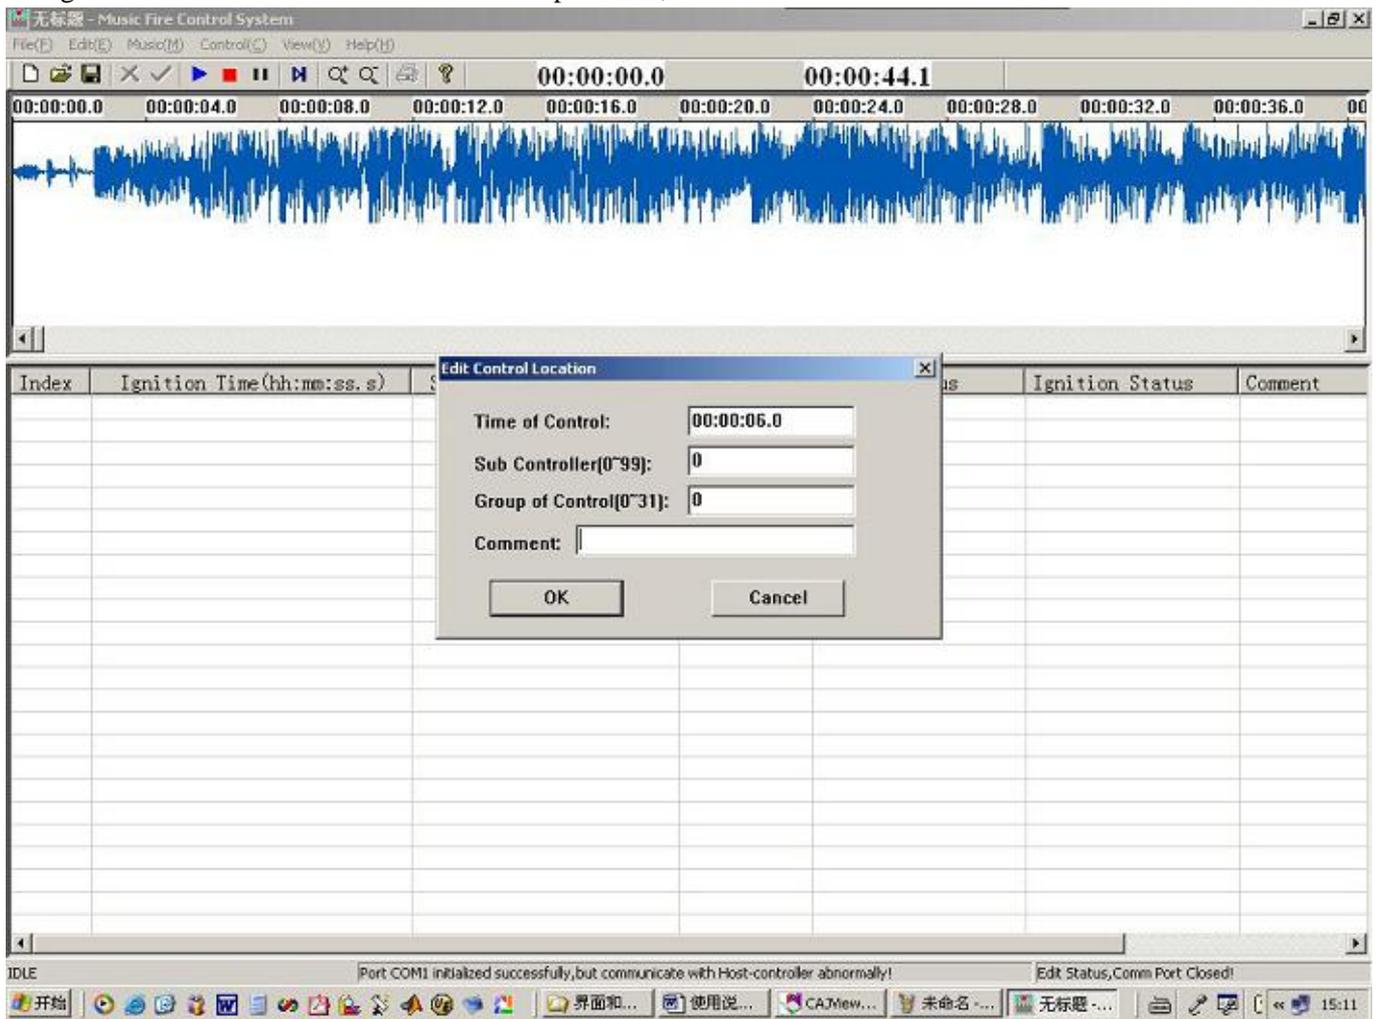

fig 24 Edit control point
5. After load the music, then can add control points. The control point is the fire group of the SET-OFF task. As show in fig 24. Click the “pause” button on the toolbar or push the spacebar in the edit status, then can enter the edit control point dialog. If the user wants to edit the item in the report table, he can double click the item in the edit status.